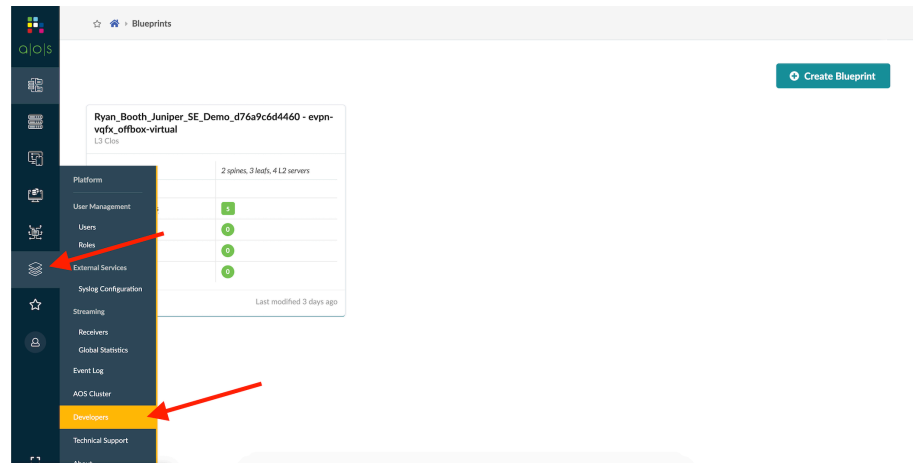

Figure 8.1 Accessing the REST API Documentation
Step 1: Go to Platform > Developer > Rest API Documentation. See Figure 8.1.